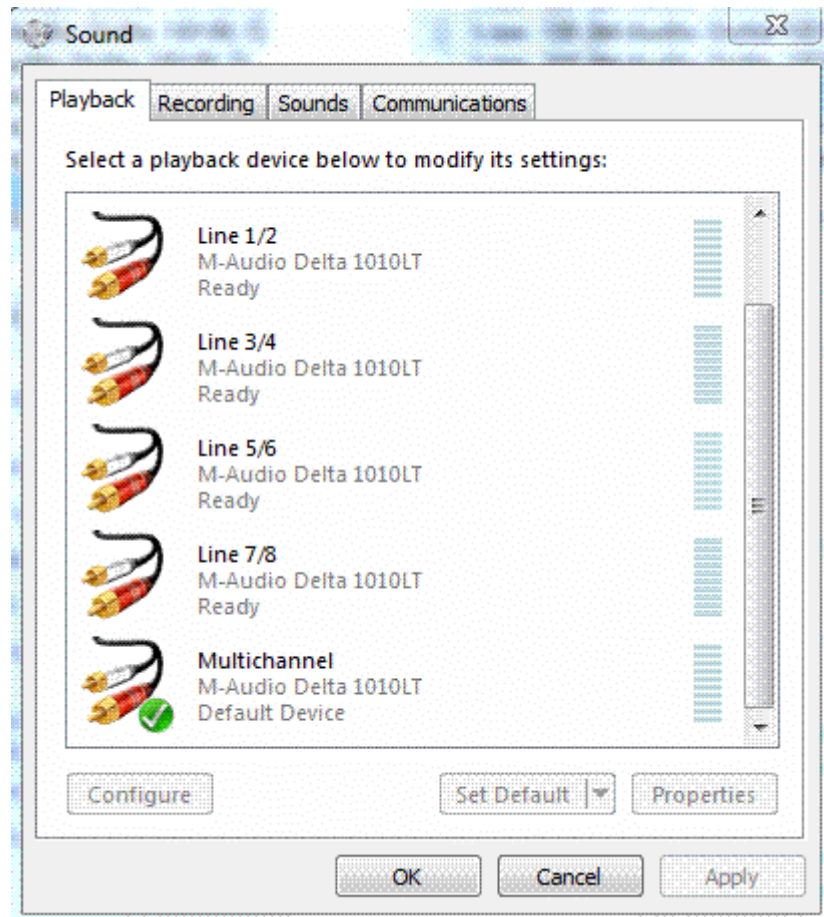

Figure F2. Sound dialog Sound tab.
- When the Sound dialog open select the Playback tab. The dialog will look as shown in Figure F2.